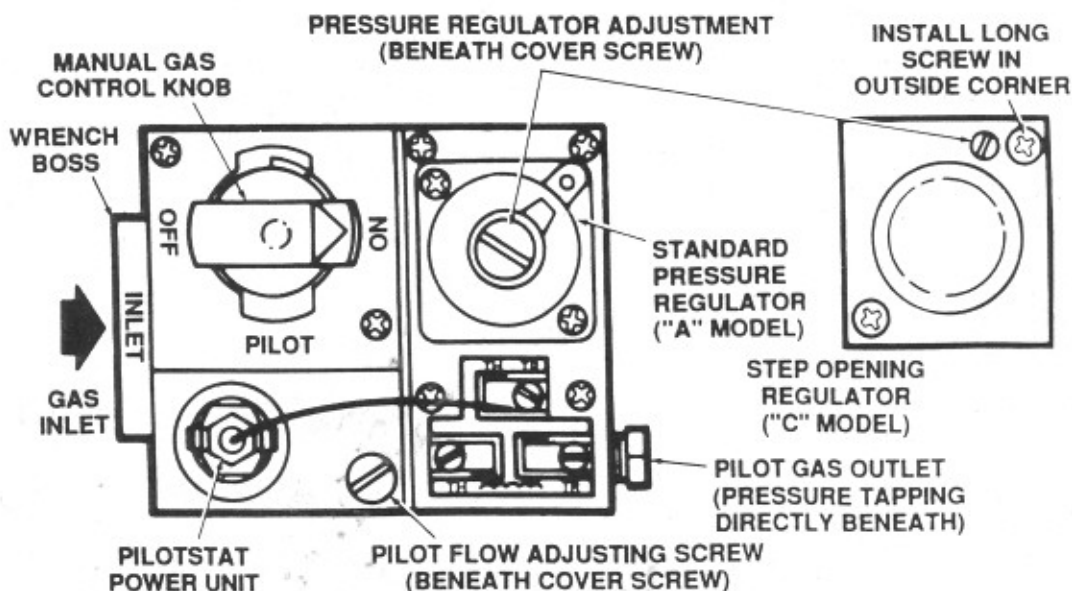

Figure 12. Top View of Standard Capacity Gas Control.
- a. Remove pilot adjustment cover screw. Refer to Figure 12.